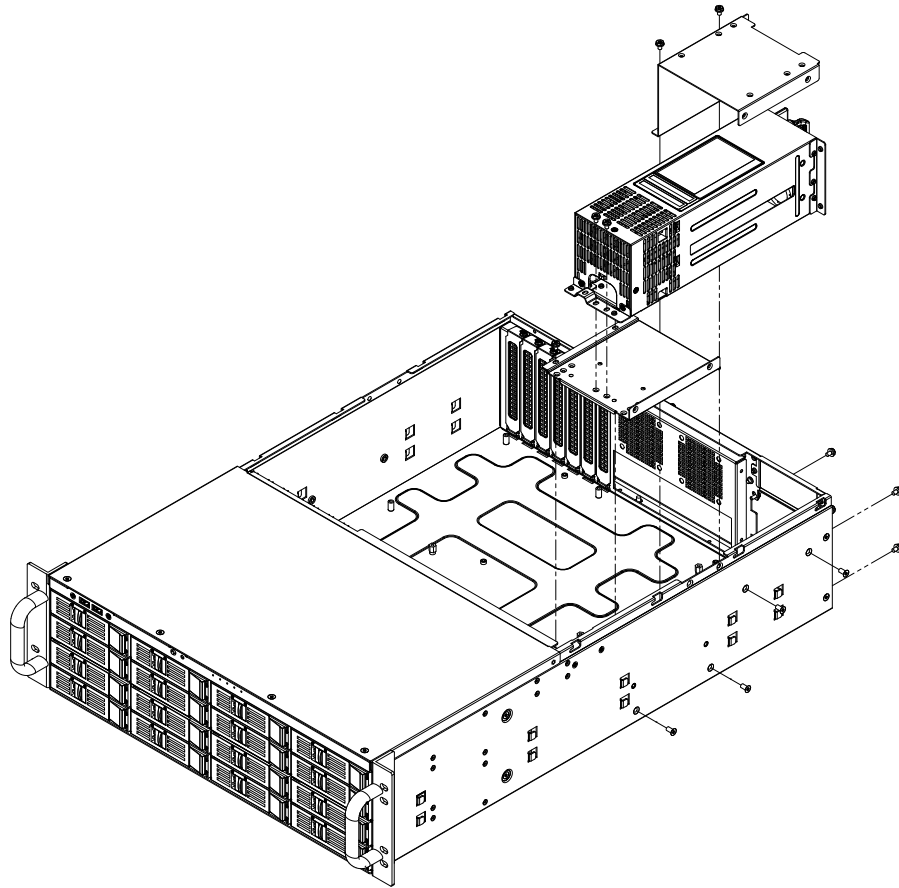

Figure 3.5: Replacing the power supply/ 更换电源 / 更換電源
4. Loosen the 4 screws on the rear plate, the 4 screws on the power supply and the 4 screws on the rear HDD bracket, and then gently take it out. (see Figure 3.5)
4. 卸下后面板上的 4 个螺丝，电源支架上的 4 个螺丝及后置硬盘架的四个螺丝，然后取出电源（如图 3.5）。